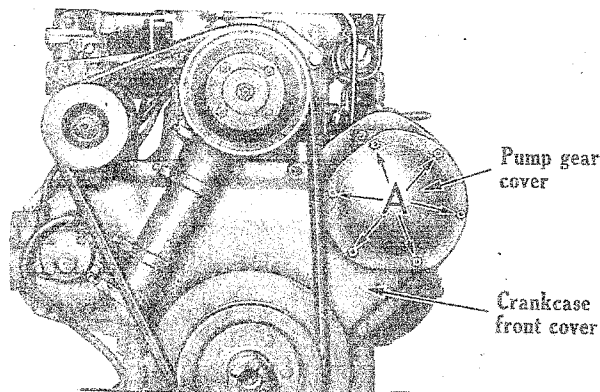

Figure 66D. Cap Screws Holding Pump Gear Cover to Crankcase Front Cover (UD-16 Eng.)
(7) Remove the six cap screws (A), Fig. 66D, which secure the pump gear cover to the crankcase front cover; then lift off the pump gear cover.